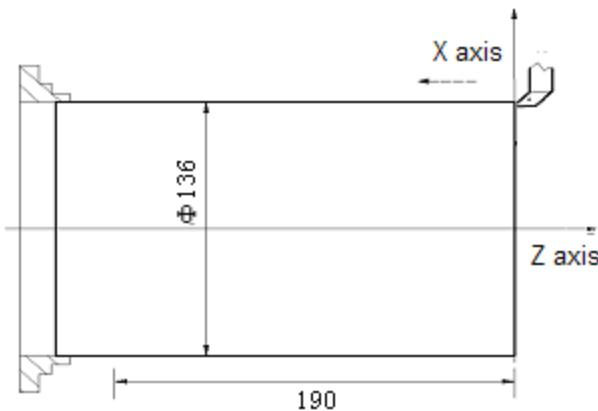

Fig.10-7
(4) The tool is moved and the tool is cut along the workpiece excircle, which is shown as Fig. 10-7: